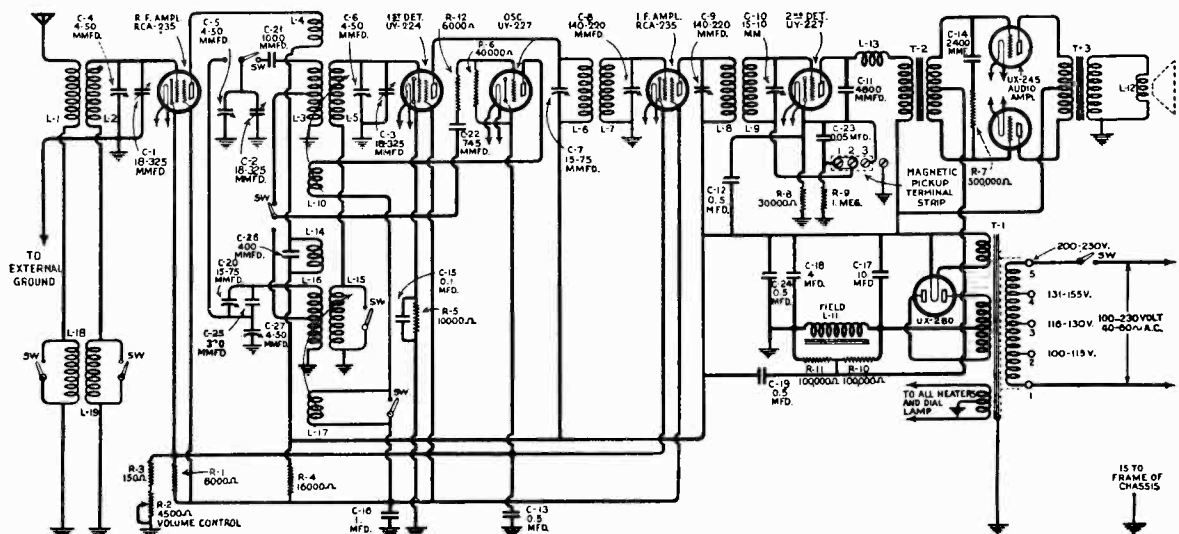
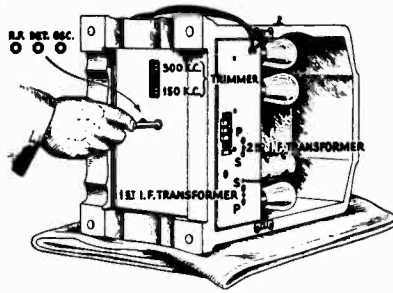
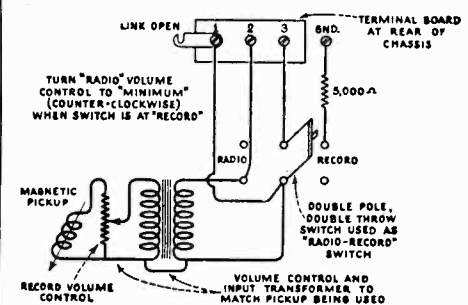
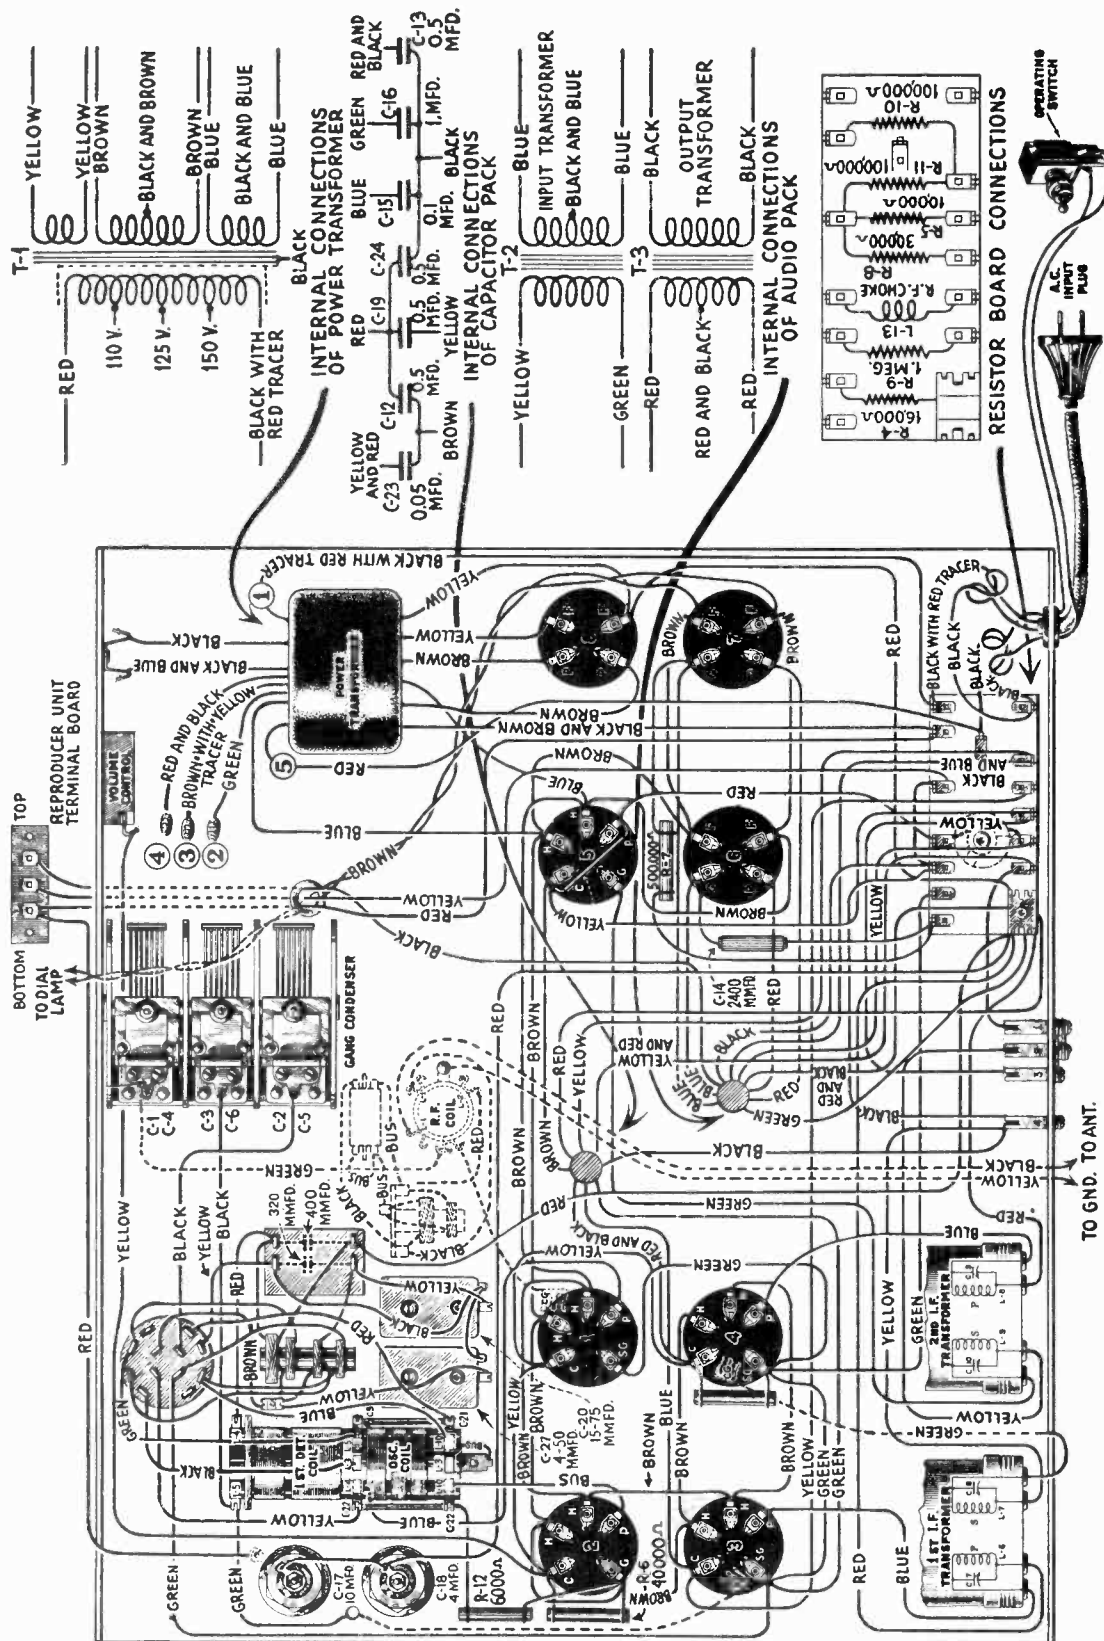

Figure 1—Schematic circuit diagram of R-7-LW
Figure 2—Location of various line-up capacitors
Figure 3—Magnetic Pickup Connections
Figure 4—Wiring diagram of R-7-LW
Figure 1 shows the schematic circuit diagram. Figure 2 shows the location of the various line-up capacitors. Figure 3 gives the correct connections for attaching a magnetic pickup to the R-7-L.W. and Figure 4 shows the wiring diagram. The voltage readings obtained at the Radiotron sockets with one of the usual set analyzers are given on page 3.
- (d) Now adjust the secondary and primary of the second and first I.F. transformers until a maximum reading is obtained in the output meter. See Figure 2. Go through these adjustments a second time as a slight readjustment may be necessary.
- (e) With the socket wrench adjust the oscillator, first detector and R.F. line-up condensers until a maximum deflection is obtained in the output meter. (See Figure 2).
- (f) Set the oscillator at 300 K.C. Set the Selector Switch to the right for the low frequency band and tune in this signal with the receiver. Adjust the Volume control for a deflection in the output meter. Now adjust the 300 K.C. condenser Figure 2 until maximum output has been obtained. Rock the gang condenser back and forth while making this adjustment.
- (g) Set the oscillator at 150 K.C. and repeat as in (f) only adjust the 150 K.C. trimming condenser shown in Figure 2.